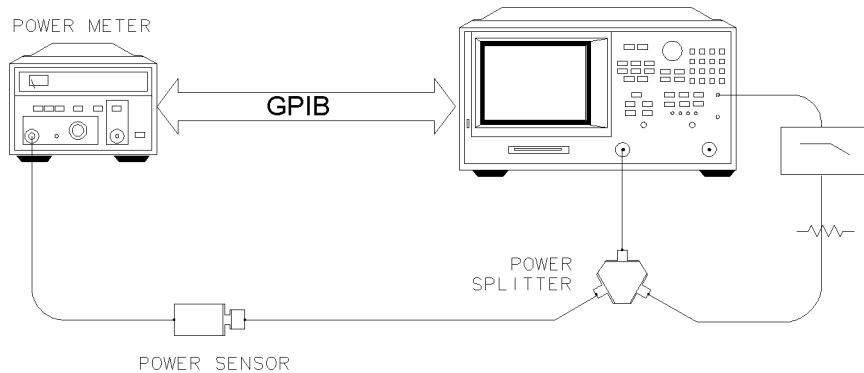

Figure 8-23. Connections for R-channel and Source Calibration
- 7 Connect the measurement equipment as shown in Figure 8-23.